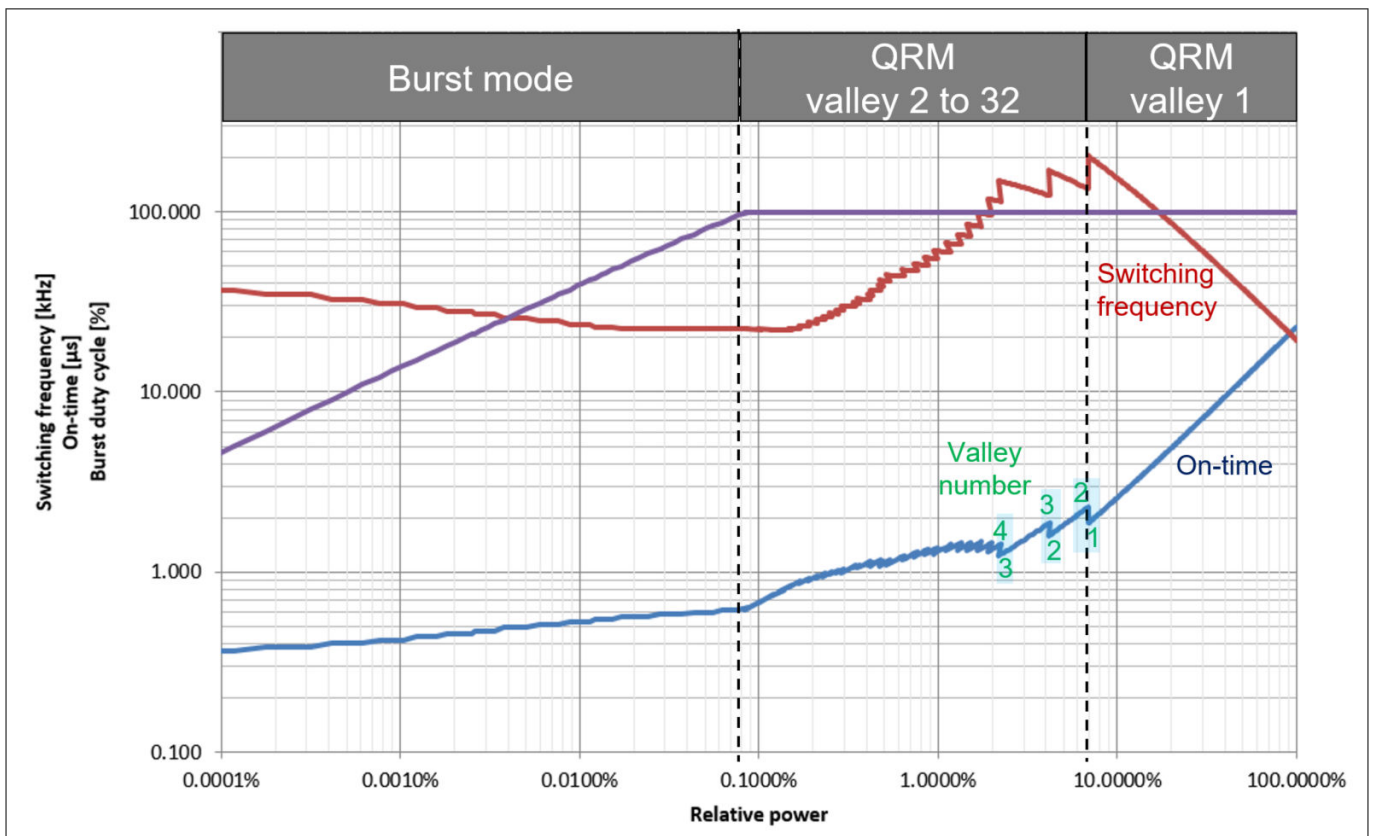

Figure 10 Exemplary switching characteristics versus relative power, with on-time compensation for valley changing
Figure 10 areas highlighted in blue show the on-time compensation effect (in zig-zag pattern) when, for example, the QRM valley number is increased from 1 to 2, from 2 to 3, and from 3 to 4. When the relative power is further decreased, the on-time compensation continues at higher valley changing position (in smaller zig-zag), until it reaches the maximum valley number of 32. To ensure the QRM switching frequency reduction stays above the audible range, the QRM off-time is limited to a maximum value of  $t_{off}$  (47  $\mu s$  typ.).
- the system-dependent on-time compensation effect for valley number change (see Figure 10)